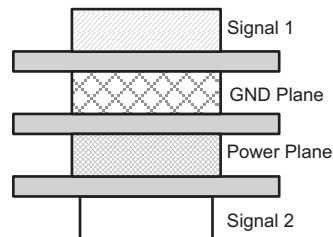

Figure 12. Four-Layer Board Stackup
- Due to high-frequency signals, a printed-circuit board with at least four layers is recommended; two signal layers separated by a ground and power layer as shown in Figure 12.